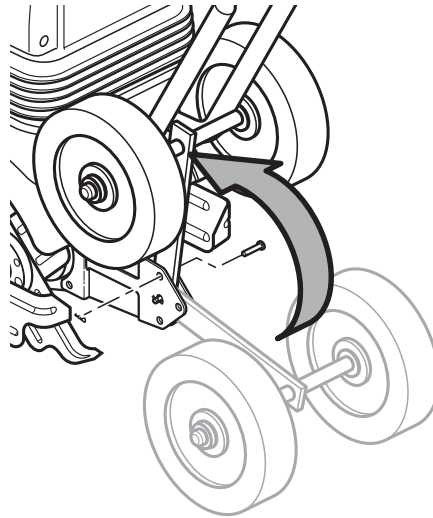

Figure 7 - Adjusting Wheel Assembly to Tilling Position
2. Rotate the wheel assembly up and forward as shown in Figure 7 until the hole in the wheel assembly lines up with the upper hole in the mounting bracket.